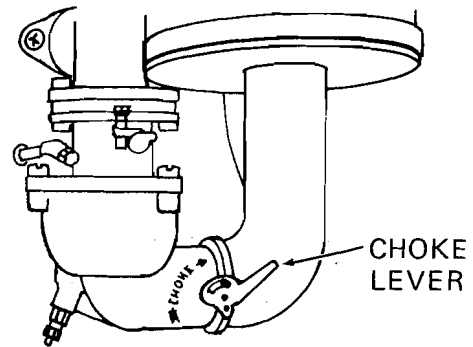

FIG. 4
1. To start a cold engine, move manual choke control to full choke position; refer to Figure 4.